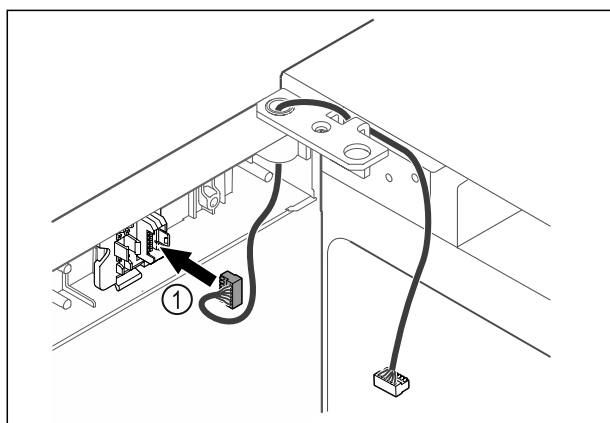

Fig. 41
- ▶ Put the plug Fig. 41 (1) in the plug holder.